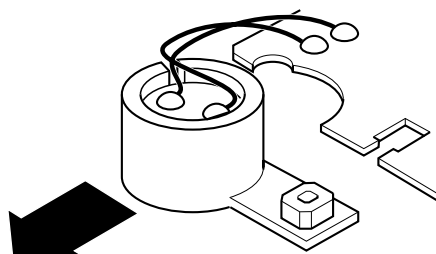

Figure 8: Microphone removal
8. (Figure 8) Remove the microphone from the PCB assembly.